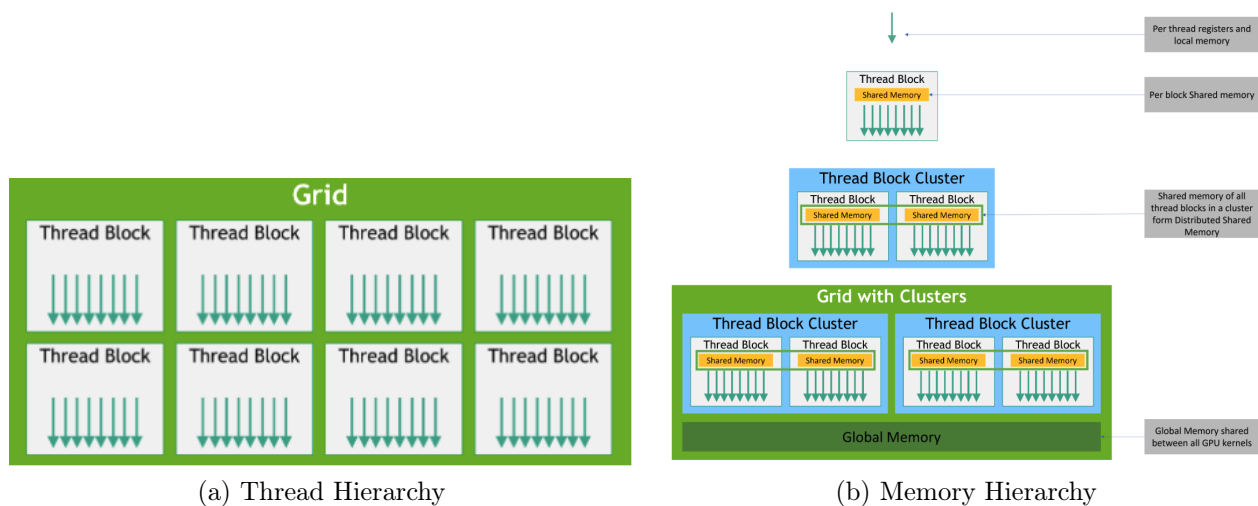

Figure 5: Abstractions of CUDA programming language
It provides two different hierarchies: **Thread Hierarchy** and **Memory Hierarchy**. Figure 5. (a) represents that multiple threads packed into a thread block and multiple thread blocks packed into a grid. In the execution, each thread block is divided into multiple warps and allocated in the **same streaming multiprocessor (SM)**. It simplifies and enhances the communication between threads in the same thread block. Also, in CUDA, threads block can consist of at most 1024 threads.
Figure 5 (b) decently depicts the memory hierarchy with the thread hierarchy. Each thread owns local memory, and thread block owns shared memory shared by all threads in the block. Consecutively, a grid owns their global memory which is shared by all threads in the grid. **Shared memory** primitive provides abstraction of shared memory which is shared